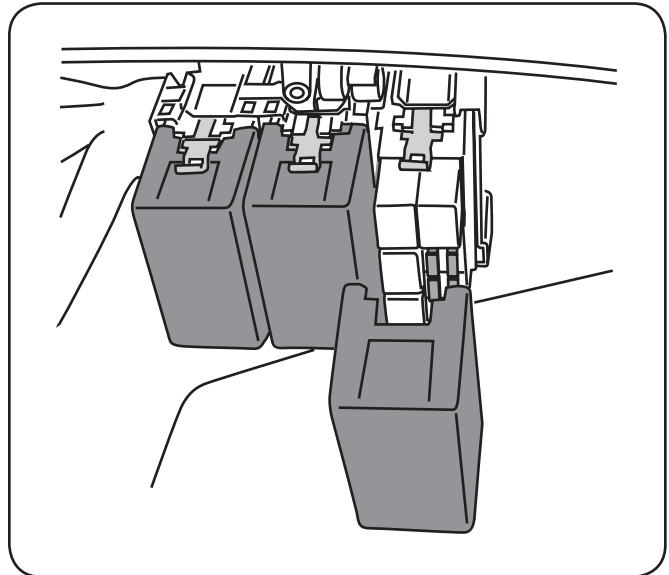

Figure 6-17
2. Remove fuse holder cover. See Figure 6-17.